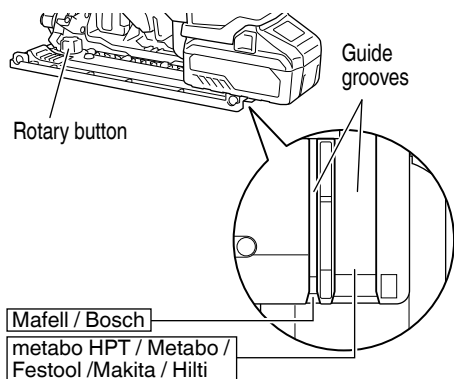

Fig. 22
5. Sawing with a guide rail (sold separately) (Fig. 22)